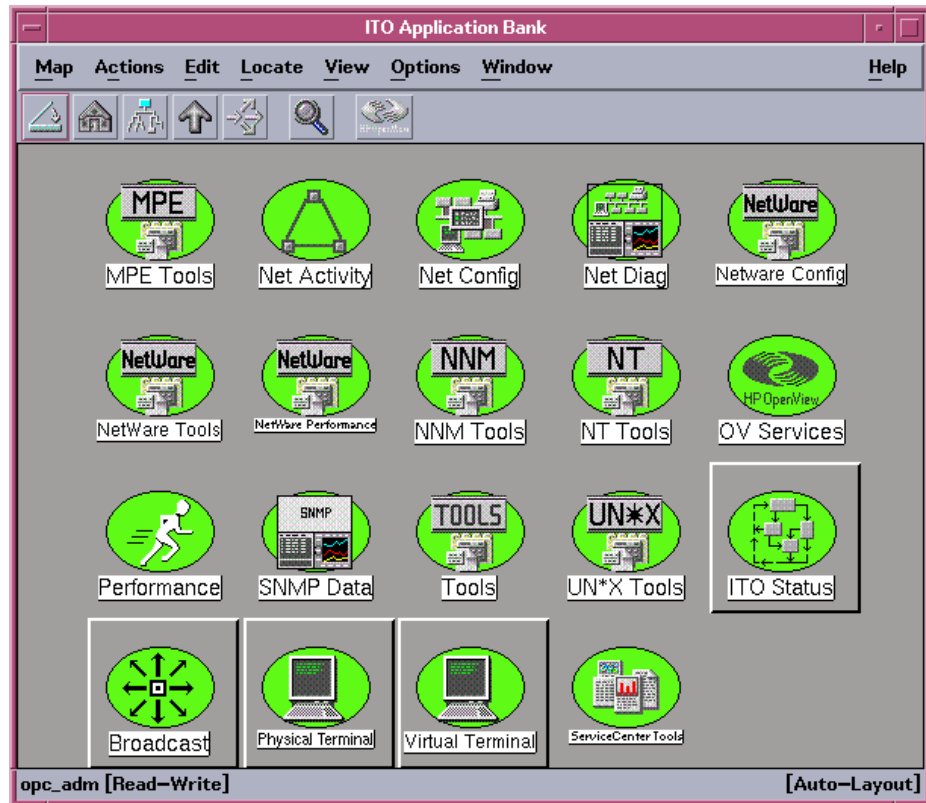
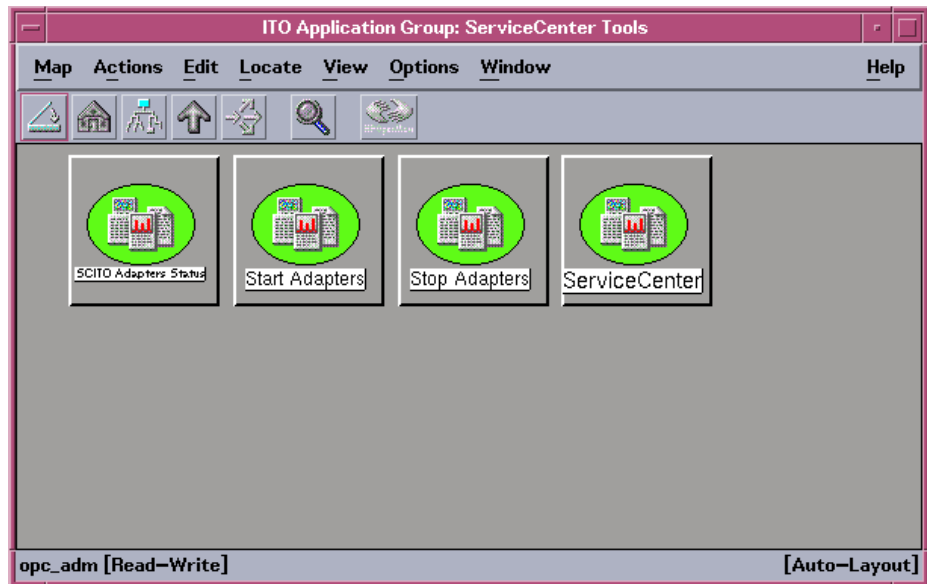

Figure 3-1. IT/O Application Bank GUI with ServiceCenter Tools Icon
Figure 3-2. ServiceCenter Tools GUI with SCAuto for IT/O Icons
- SCAuto for IT/O can also be started from its icon in the IT/O Application Bank window (Figure 3-1 and Figure 3-2).
When you select the *ServiceCenter Tools* icon in the IT/O Application Bank window, the ServiceCenter Tools window (Figure 3-2) is displayed. This window contains a set of icons that control the SCAuto for IT/O product as well as offering some control over ServiceCenter.
- SCAuto for IT/O can also be stopped from its icon in the IT/O Application Bank window (Figure 3-1 and Figure 3-2).